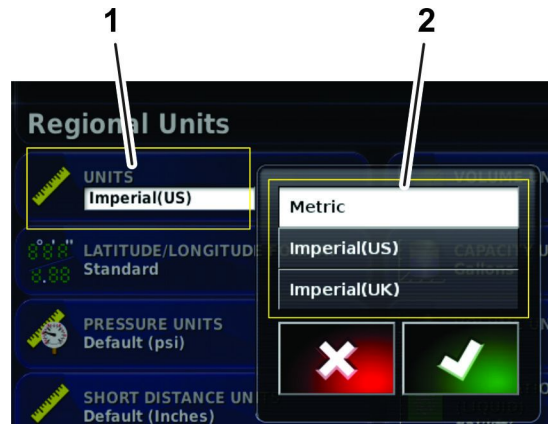

Figure 21
5. As needed, select the correct units and application rate, and press the confirm icon (Figure 21).